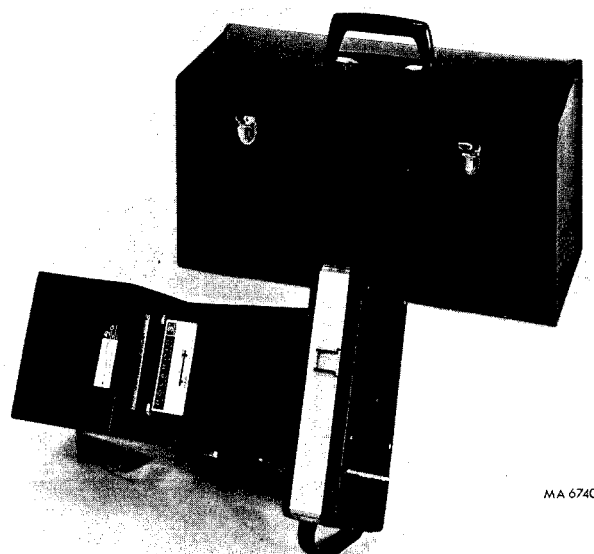

Fig. 16. Multi-purpose camera PM 9380
3.7.3. Multi-purpose camera PM 9380 (Fig. 16)